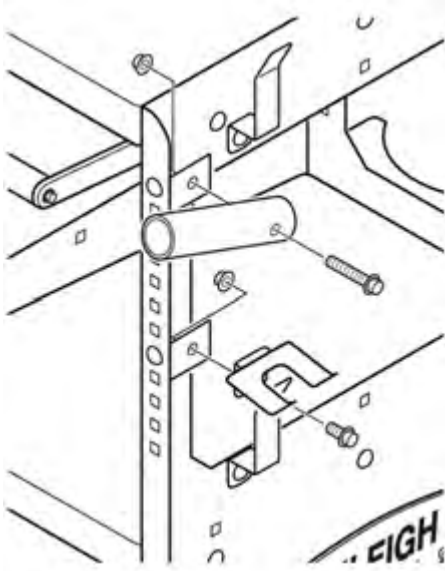

Figure 4-14
15. Using the upper Mig-Tig Holder Bracket, attach the Mig Gun Holder Tube (item #20) to the bracket using one M10 x 55 Hex Flange Bolt (item #21) and M10 Flanged Nylock Hex Nut (item #36), as shown in Figure 4-14. You can adjust the Mig Gun Holder to an angle that best suites your need. **Fully-tighten this nut.**
16. Using the lower Mig-Tig Holder Bracket, attach the Tig Torch Holder (item #23) to the bracket using one M10 x 20 Hex Flange Bolt (item #37) and M10 Flanged Nylock Hex Nut (item #36), as shown in Figure 4-14. You can adjust the Tig Torch Holder to an angle that best suits your need. **Fully-tighten this nut.**